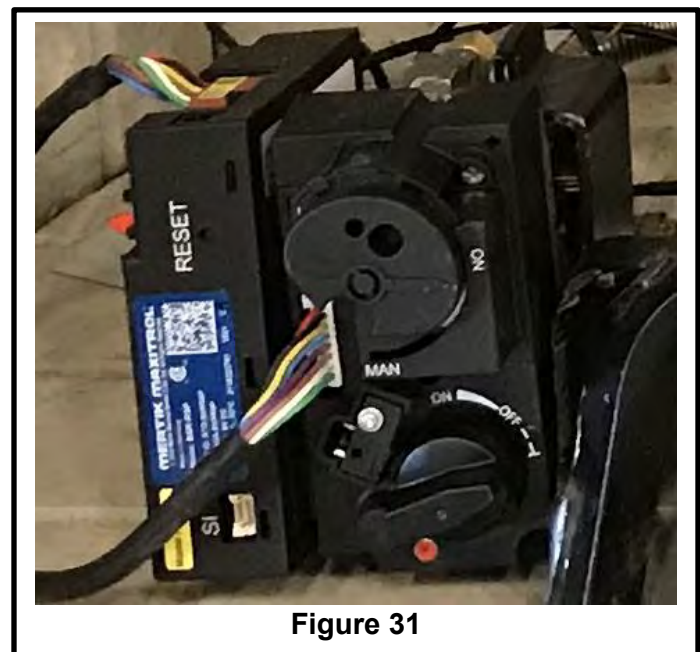

Figure 31
1. Locate the RESET button located on the top of the front face of the receiver inside the small hole labeled RESET (Figure 31). Then, using a small screwdriver (or end of a paperclip), gently press the RESET button positioned inside, and hold.